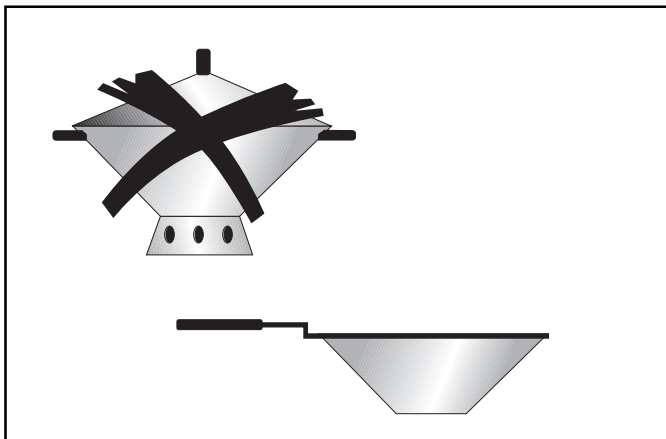

Figure 12
- Do not use a wok with a ring stand. Use flat bottom wok. (Figure 12)